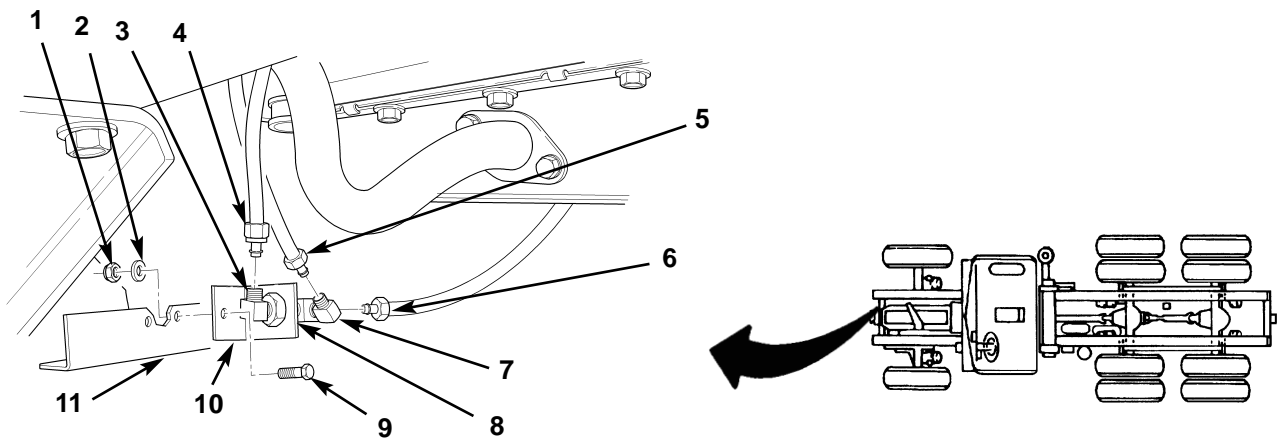

Figure 13. Installing Front Crossmember Air Block.
3. Install bulkhead fitting mount (figure 13, item 10) on front crossmember (figure 13, item 11) with bolt (figure 13, item 9), washer (figure 13, item 2), and new locknut (figure 13, item 1).
4. Connect three air tubes (figure 13, items 4, 5, and 6) to two elbows (figure 13, items 3 and 7) and adapter (figure 13, item 8).